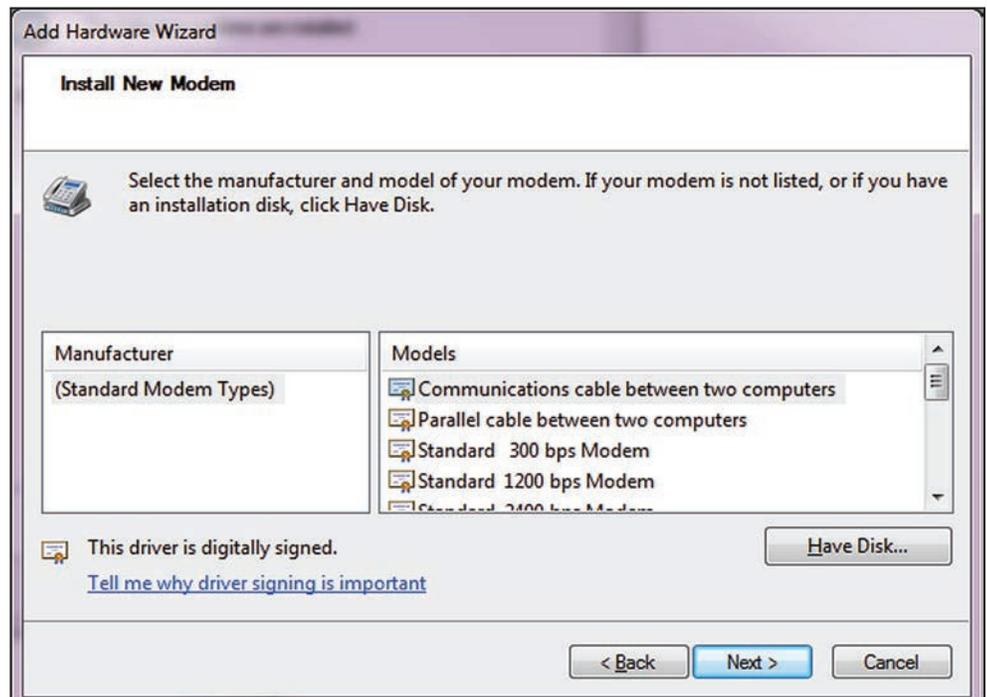

Figure 5. The Install New Modem dialog box.
STEP 5. From the list of modems, select “Communications cable between two Computers.” Then, click on the **Next** button. See Figure 5.